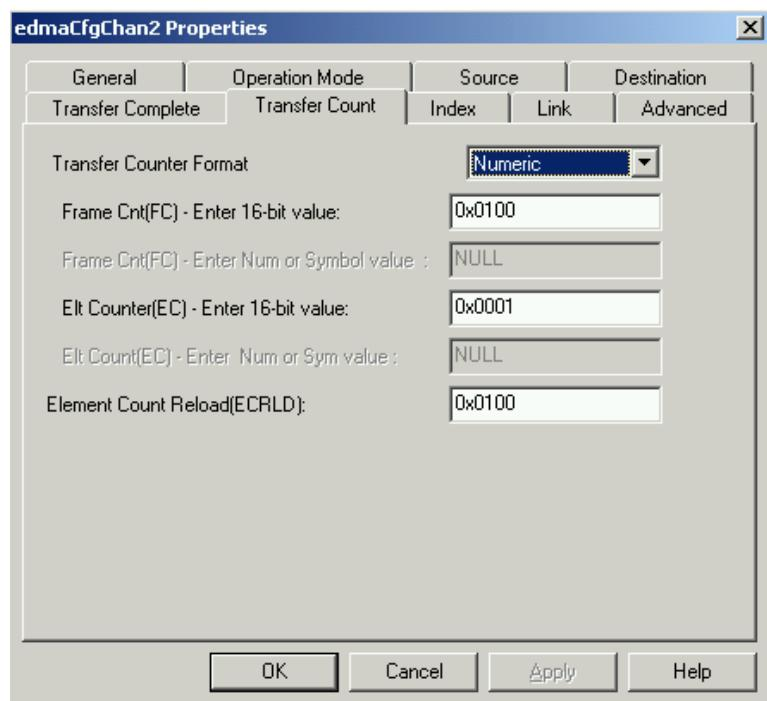

Figure 7. EDMA Chan2 Transfer Count Tab Options
6. In the Transfer Count tab, choose options shown in Figure 7. Frame count is 0x0100.